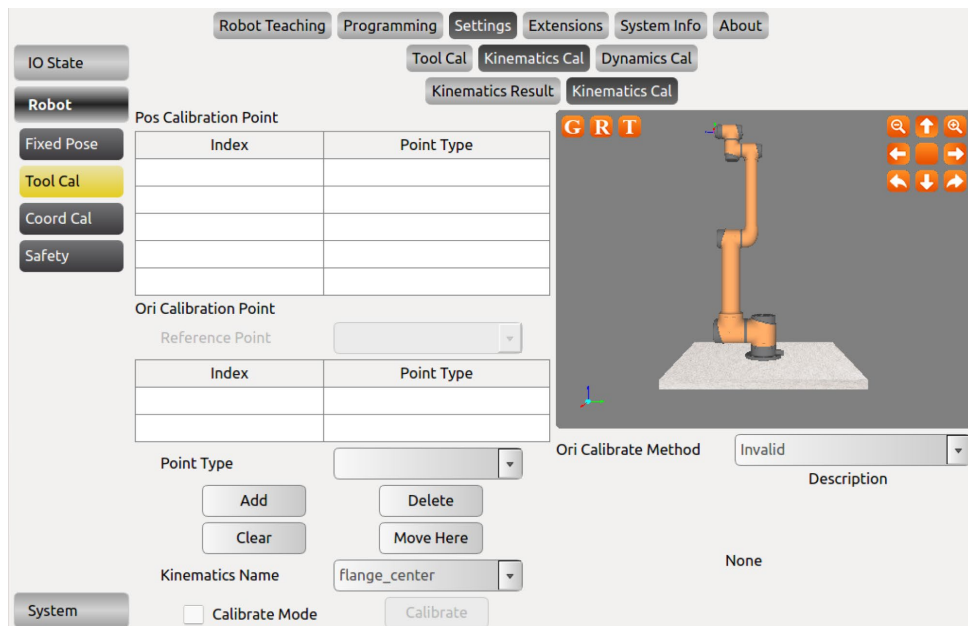

Figure 10-29 Tool Kinematics Calibration
- Go to the kinematics calibration page as figure 10-29.